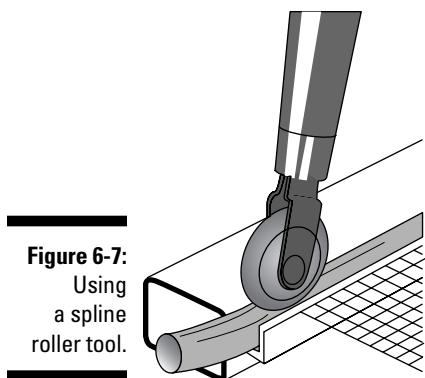

Figure 6-7:
- 5. When an inch or two of the spline is started, use the spline roller to steadily push the spline into its groove around the entire frame (see Figure 6-7).**